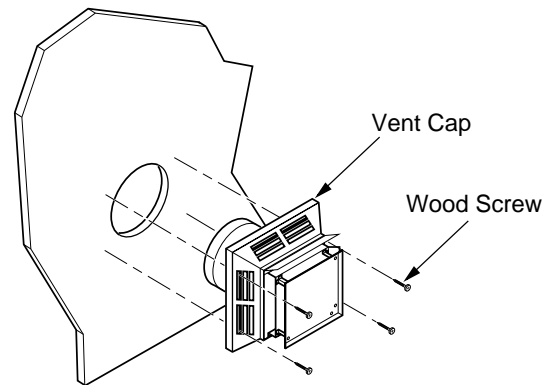

Figure 26 - Installing Horizontal Vent Cap (Noncombustible Exterior)
- Noncombustible Exterior Wall:** Apply a bead of non-hardening mastic around the outside edge of the vent cap. Position the vent cap in the center of the 7 1/2" (19.1cm) hole on the exterior wall with the arrow on the vent cap pointing up. Attach the vent cap with four wood screws provided (see Figure 26). **Note:** Replace the wood screws with appropriate fasteners for stucco, brick, concrete, or other types of siding.